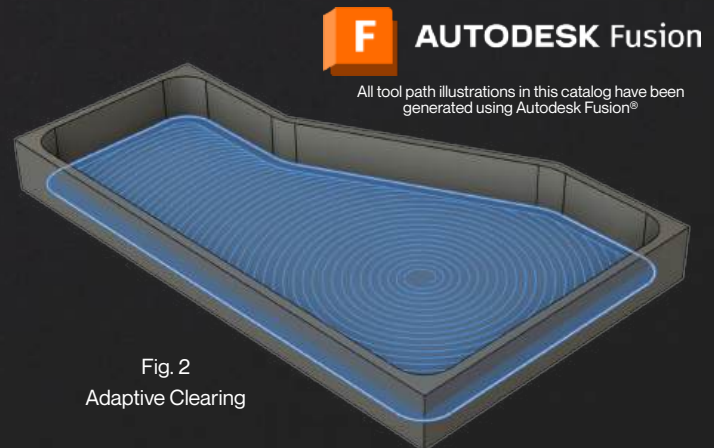

Fig. 2
- **Mitigated Trouble:** Observe that we have avoided the 90° corner motions (Fig. 2), which eliminates trouble and allows for optimization.